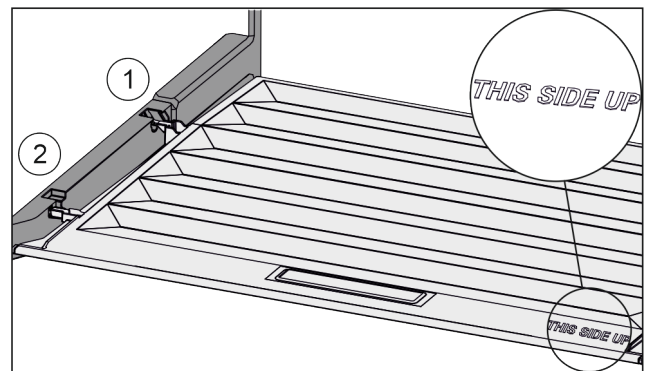

Fig. 60
- ▶ Insert the lip of the cover over the opening of the rear bracket Fig. 60 (1) and click into place Fig. 60 (2).